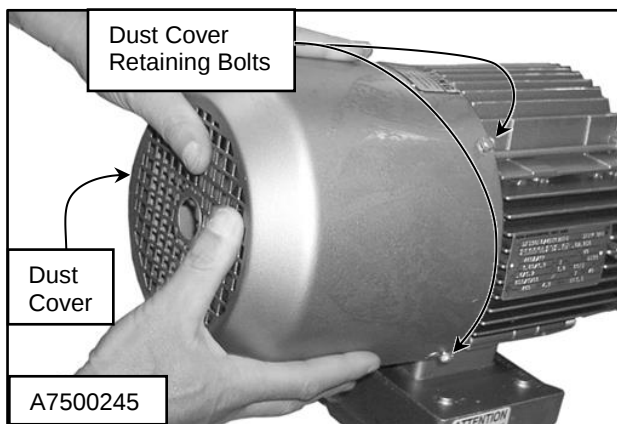

Figure 37
2. Loosen hex-head bolts retaining the dust cover to the motor assembly. Remove the cover. (See Figure 37)